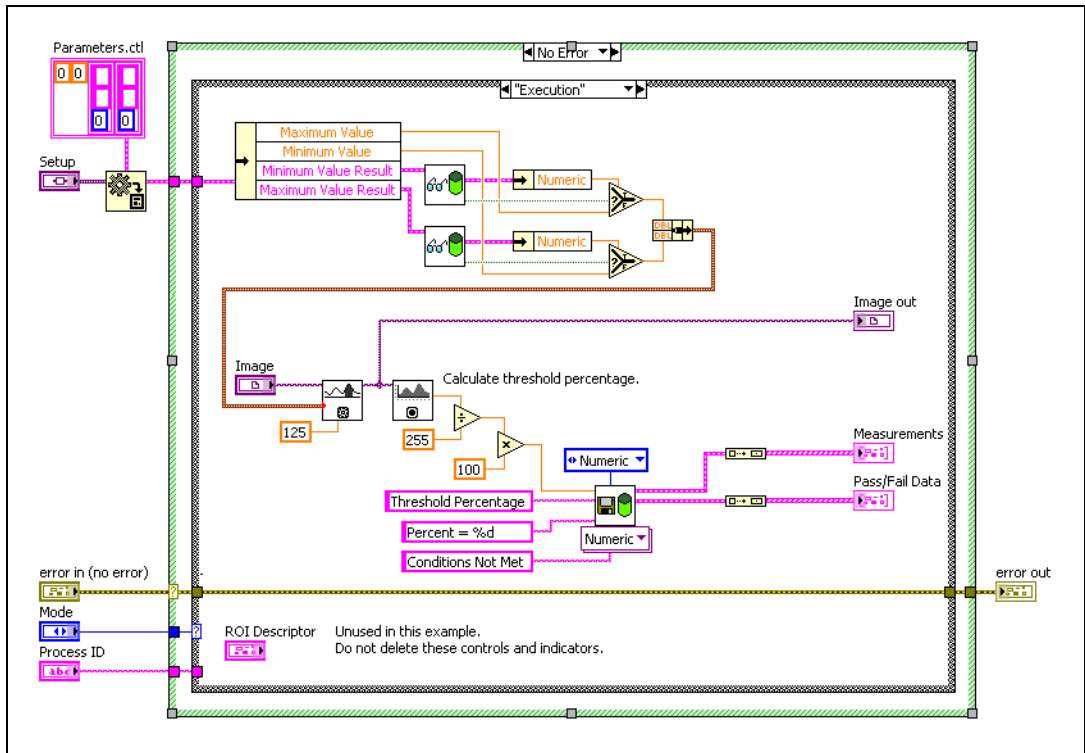

Figure 5-8. Verifying the Validity of Previous Measurement Values
6. Complete the following steps to build the block diagram illustrated in Figure 5-8: